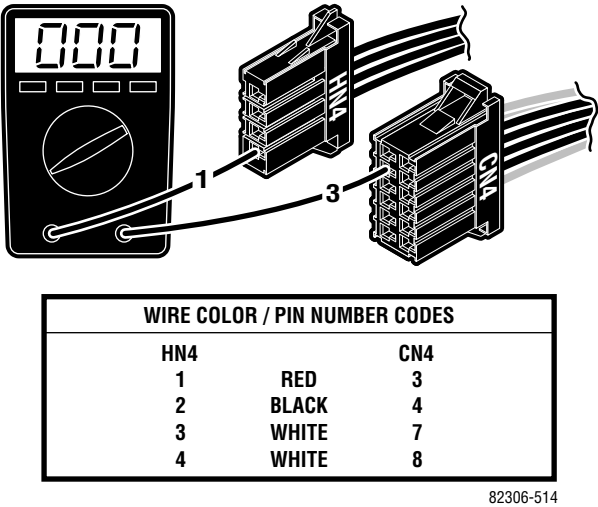

Figure 5-15.
- 2. Using an ohmmeter, test for continuity between the pins of CN4 and pins on HN4. See figure 5-15.